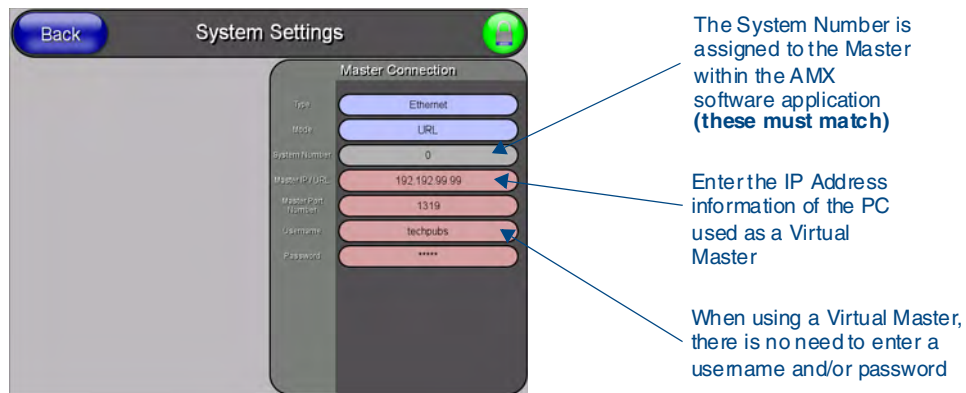

FIG. 42 Sample System Settings page (for Virtual Master communication)
- 13.** Select **Protected Setup > System Settings** (located on the lower-left) to open the *System Settings* page (FIG. 42).